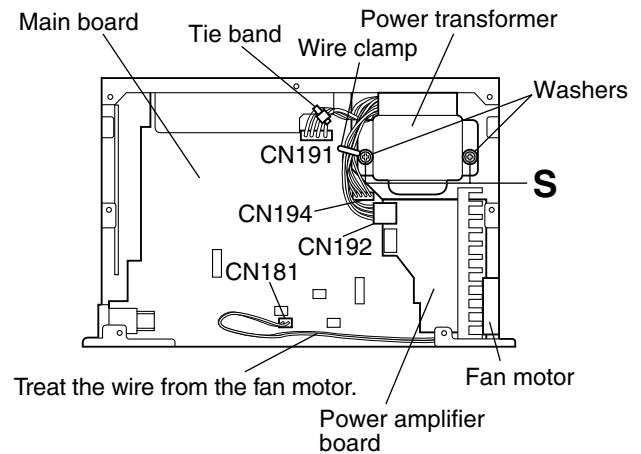

Fig.13
■ Removing the power transformer (See Fig. 13.)
■ Removing the fan motor (See Figs. 13 and 14.)
- After mounting the fan motor, treat the wire from the fan motor as shown in fig. 13.